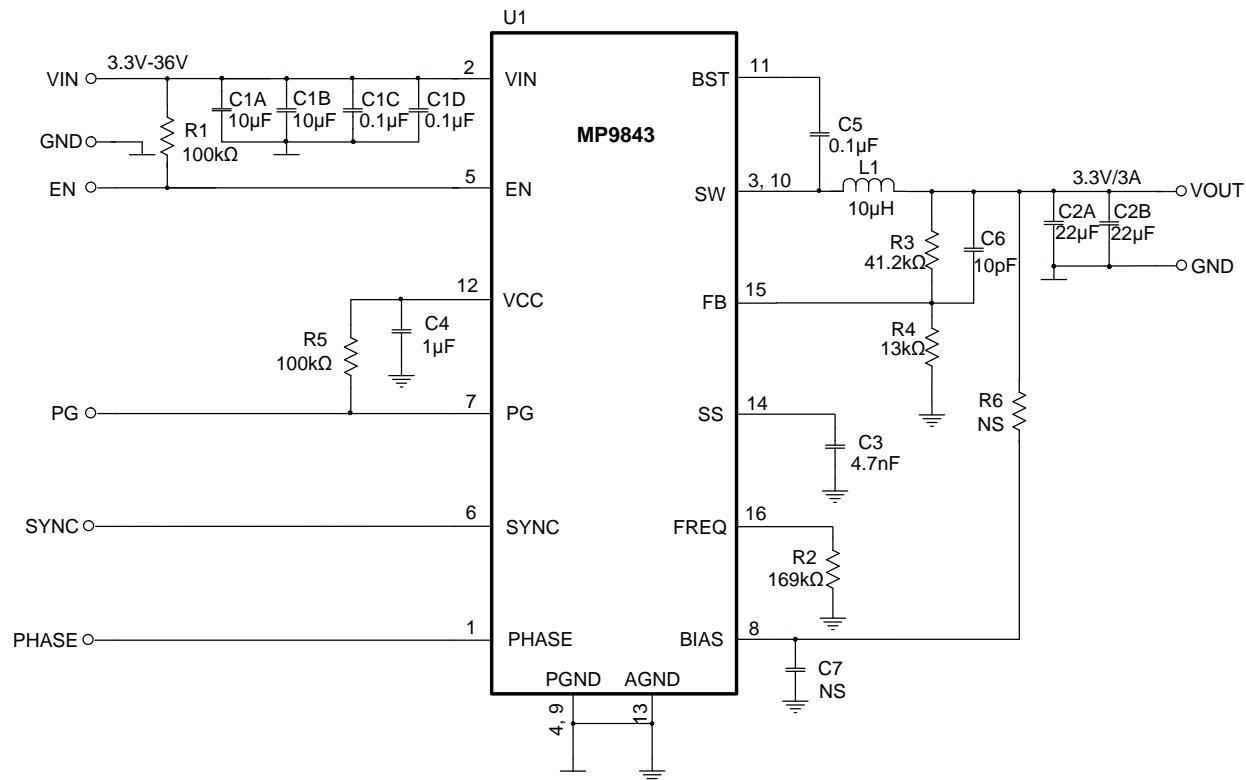

Figure 9: $V_{OUT} = 3.3V$, $F_{SW} = 500kHz$
7) The recommended PCB layout is based on Figure 9.